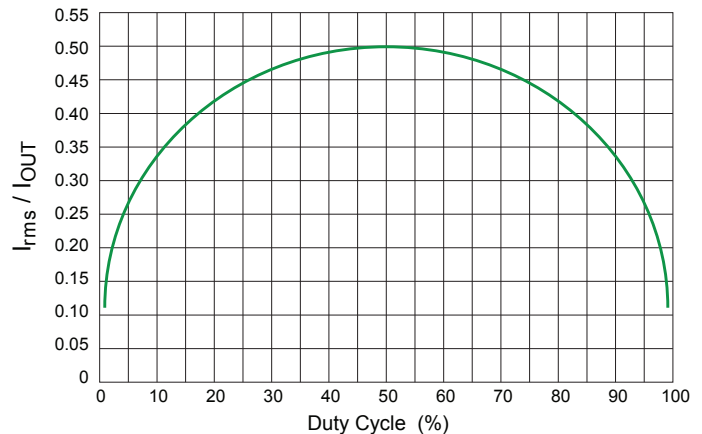

Figure 18: Input Capacitor Ripple versus Duty Cycle
Figure 18 shows the normalized input capacitor rms current versus duty cycle. To use this graph, simply find the operational duty cycle (D) on the x-axis and determine the input/output current multiplier on the y-axis. For example, at a 20% duty cycle, the input/output current multiplier is 0.40. Therefore, if the regulator is delivering 3.0 A of steady-state load current, the input capacitor(s) must support 0.40×3.0 A, or 1.2 A_{rms}.